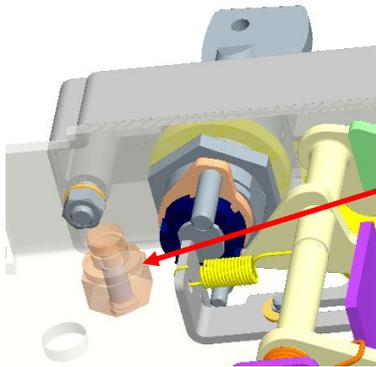

Figure 9
10. Assembly the front lock support on threaded pin in base plate (Fig 9)